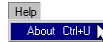

Figure 4-12. Help->About
2. Click on **Help->About** (Figure 4-12).